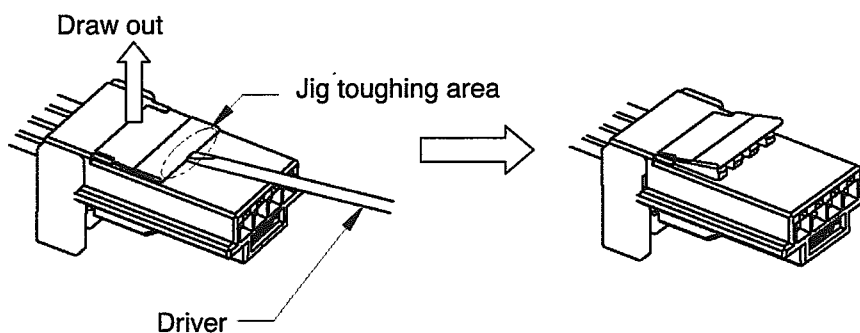

Fig.10
When the terminal requires insertion or extraction, the retainer must be in the pre-assembled condition. The insertion or extraction cannot be done in final lock condition. (See Fig.10, 11)
- (1) Touch the tip of precision screwdriver with 1mm blade onto the following area in Fig. 10.
- (2) Draw out the retainer as pre-assembled condition or opened condition.